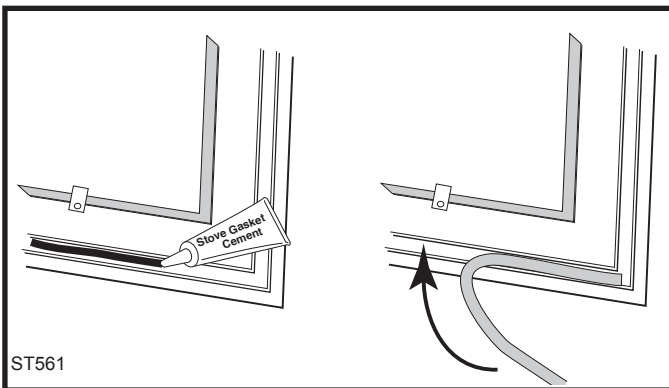

Fig. 46 Lay a bead of gasket cement then press gasket in place.
5. Lay an unbroken 1/8" (3 mm) bead of silicone in the newly-cleaned channel. (Fig. 46)
6. Starting at one end, press the gasket into the channel. (Fig. 46) Ensure a good joint where the gasket meets before trimming any excess. Do not overlap the gasket ends or leave ends with ragged edges.